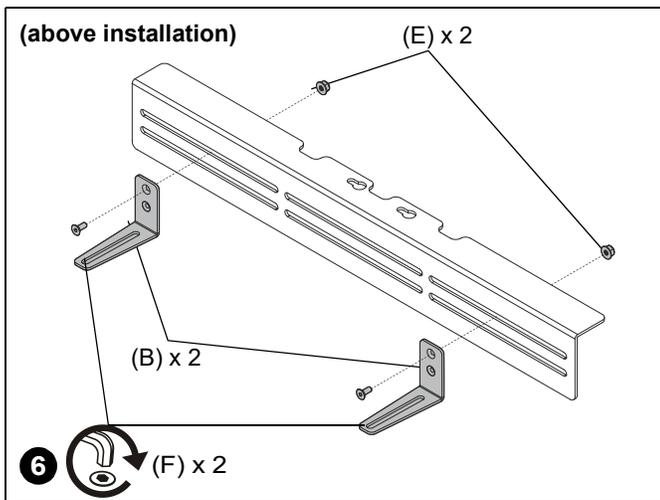

Figure 6
6. Use two #10-24 x 1/4" flat head cap screws (F) and two #10-24 flange hex nuts (E) to secure two speaker adapters (B) to adapter bracket (C). (See Figure 6)